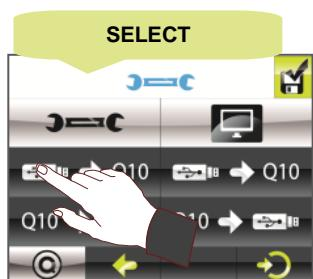

FIGURE 1.
- 1. Select the operation to be performed (fig.1). In this example, we will copy the configuration data which we have obtained from another grinder and which has been copied onto a USB memory stick, and will be then copied onto our grinder.